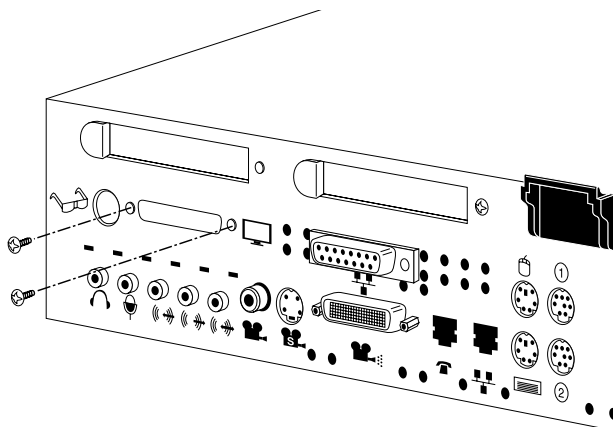

Figure 8-18 Removing the Exterior Screws For the Z Board
9. On the rear of the workstation, remove the two screws, as shown in Figure 8-18.